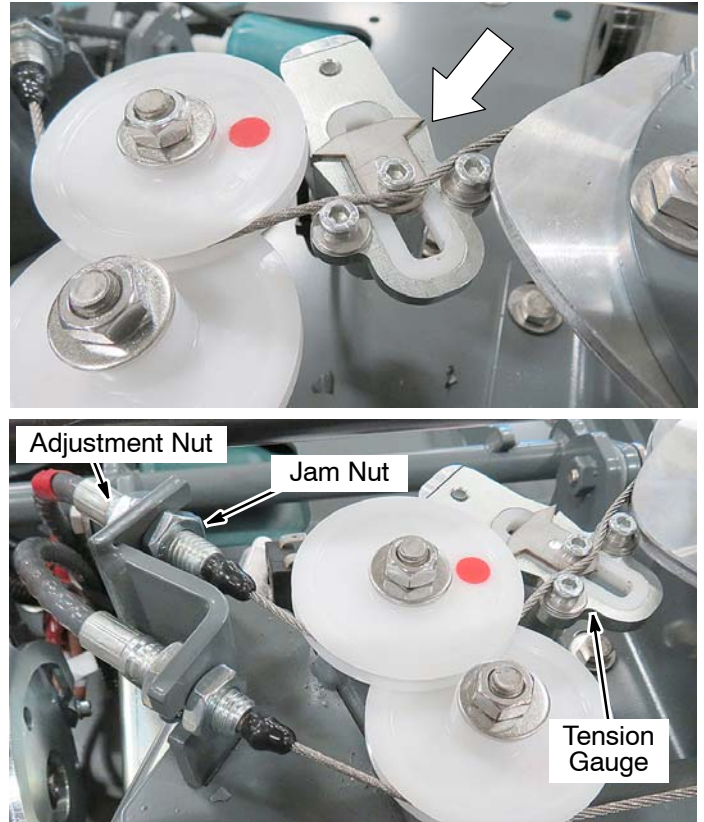

Fig. 7
9. Place the tension gauge tool on the bottom steering cable (red) and repeat the tension adjustment procedure (Figure 7).